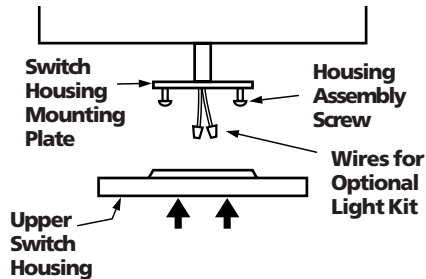

Figure 8a - Attaching Upper Switch Housing to Switch Housing Mounting Plate
1. Partially install two #6-32 x 3/8" housing assembly screws into the switch housing mounting plate as shown in Figure 8a.
2. Feed the two optional accessory light kit wires with the attached wire nuts through the center opening of the upper switch housing. See Figure 8a.